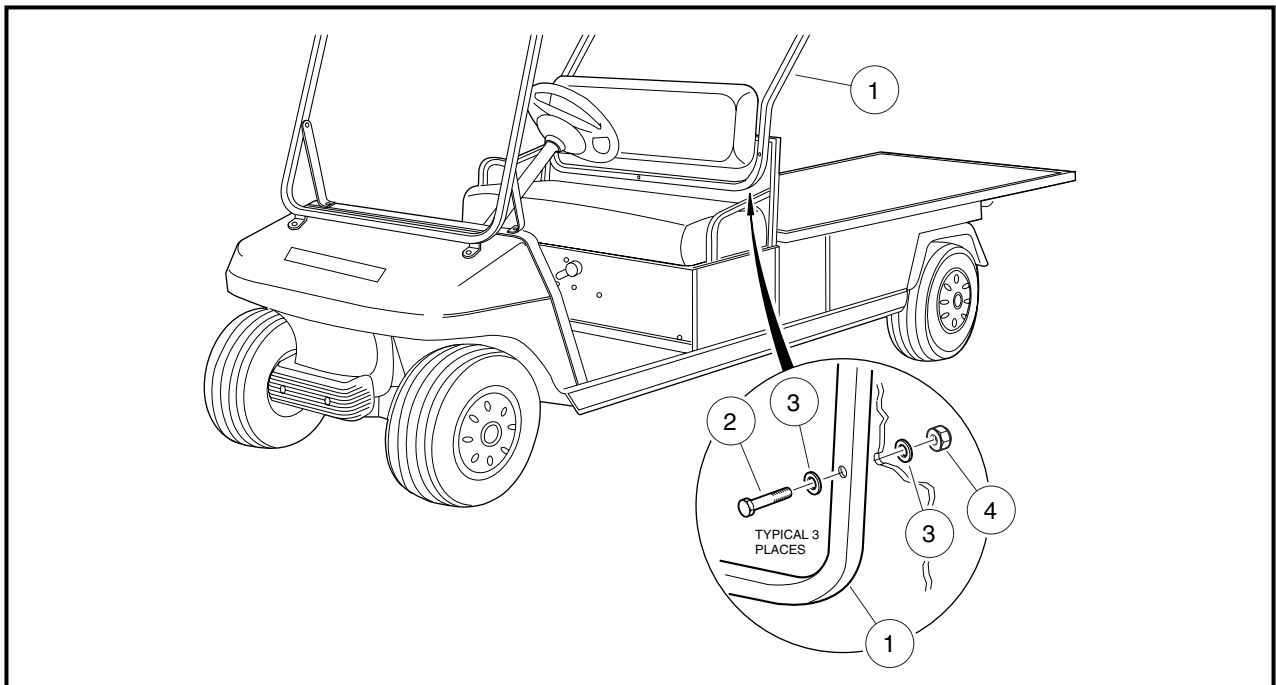

Figure 5 Install Rear Brace
- 3.1. Locate the three rear brace mounting holes (one each side, one center) in the seat back support (Figure 5).